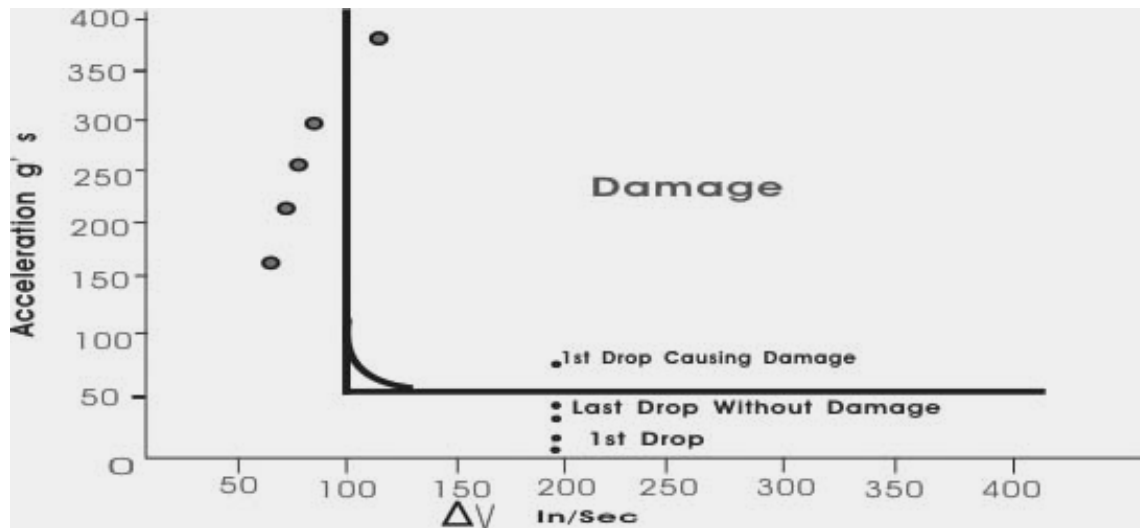

Figure 14.4 Damage boundary line development
2.Step Acceleration Test(Figure 14.4) to determine the horizontal line of the damage boundary ..